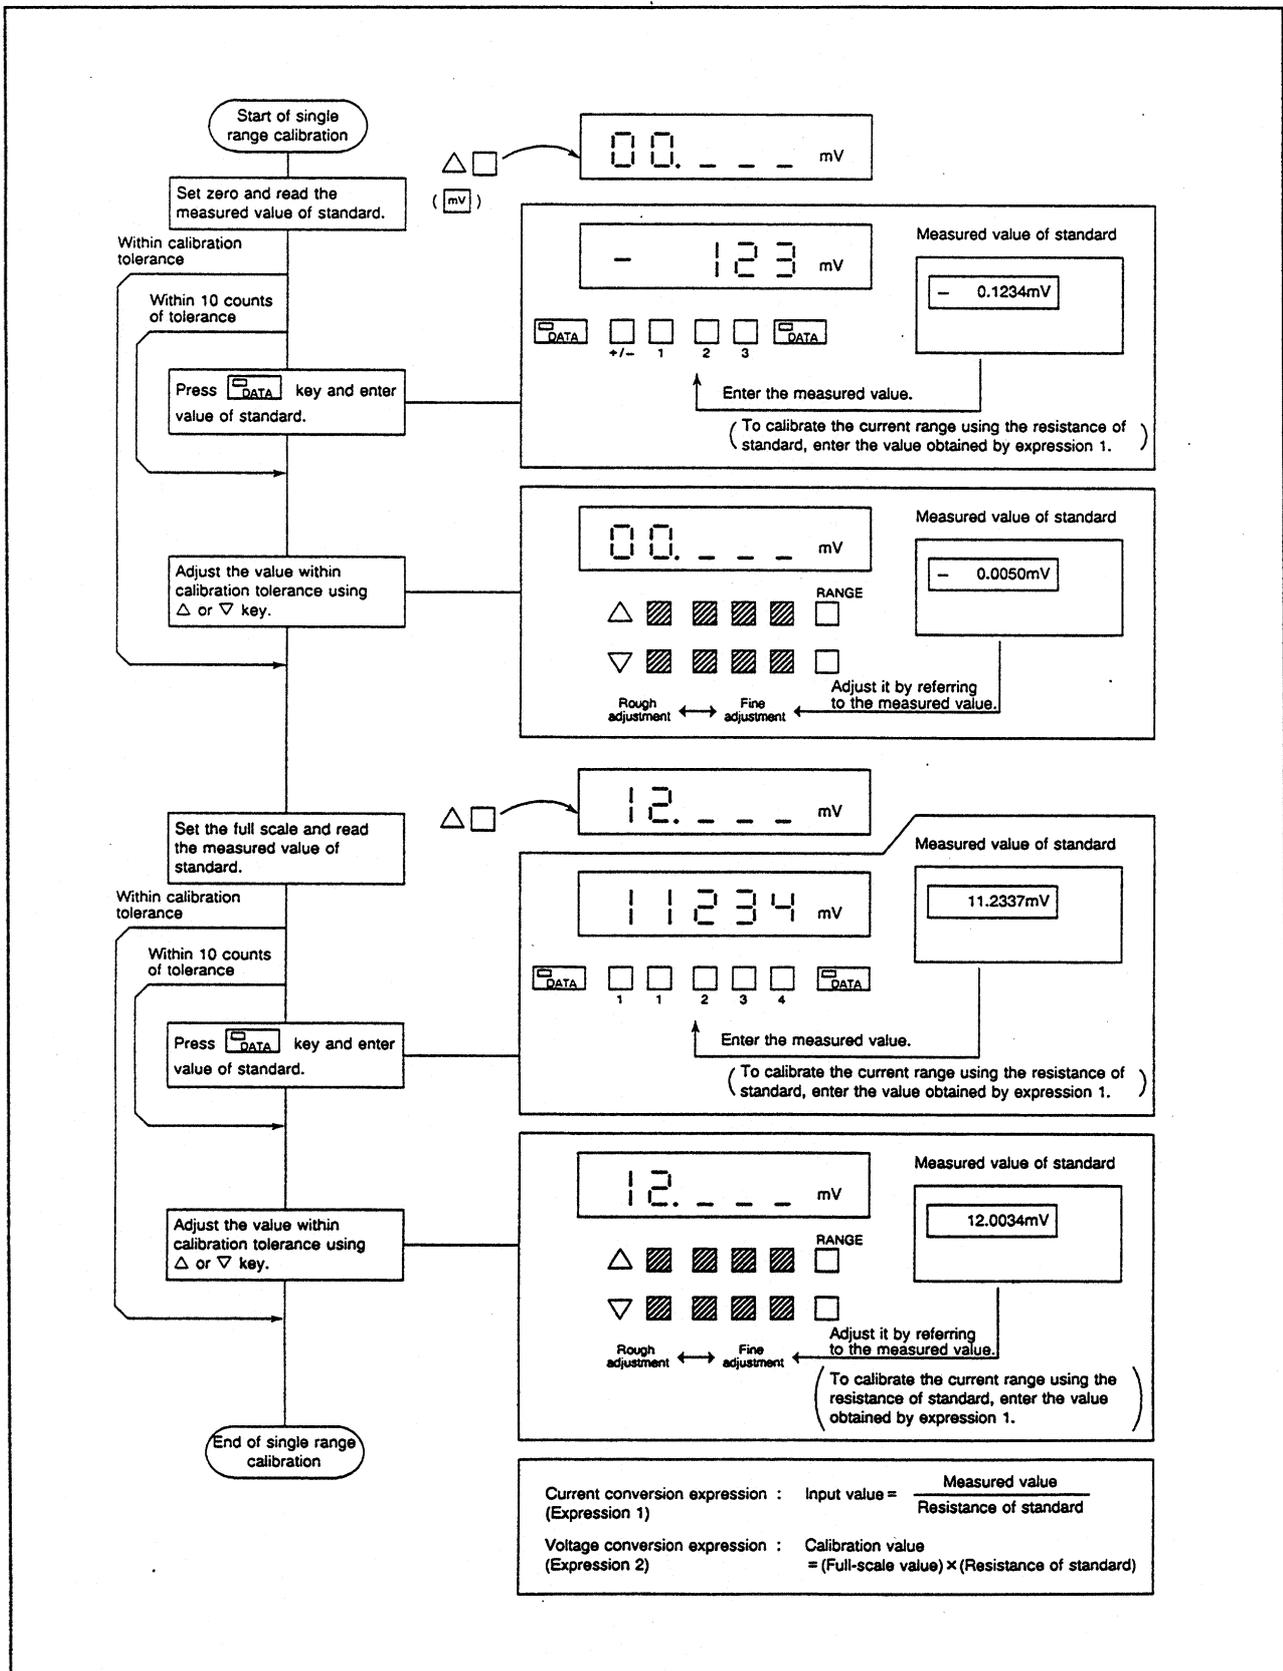

Figure 5-2 Calibration of A Single Range using R6142
- ⑤ Select the calibration range using the  $\Delta$  or  $\nabla$  key, and set the standard as defined on Table 5-5.
- ⑥ Press the  OPERATE key to light its LED. (OPERATE ON)
- ⑦ Calibrate and check the parameters using the  $\Delta$  or  $\nabla$  key and + and - keys in the sequence of "+ Zero" and "+ Full scale as shown in Figures 5-2 and 5-3.
- ⑧ Press the  OPERATE key to turn off its LED. (OPERATE OFF)
- ⑨ Repeat Steps ⑤ to ⑧ to calibrate the range between the setup functions.
- ⑩ Turn off the EXT CAL switch on the rear panel, and press the  STEP key.
- ⑤ Select the calibration range using the  $\Delta$  or  $\nabla$  key, and set the standard as defined on Table 5-7.
- ⑦ Calibrate and check the parameters using the  $\Delta$  or  $\nabla$  key and + and - keys in the sequence of "+ Zero" and "+ Full scale" as shown in Figures 5-2 and 5-3.